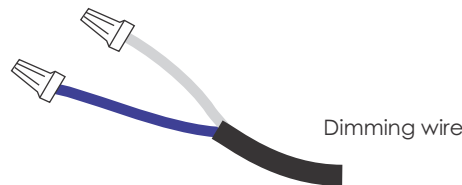

Fig 1.
**NOTE : If not using 0-10V dimming options, terminate each of the two wires with wire connectors to prevent cross contact. See Fig 1.**